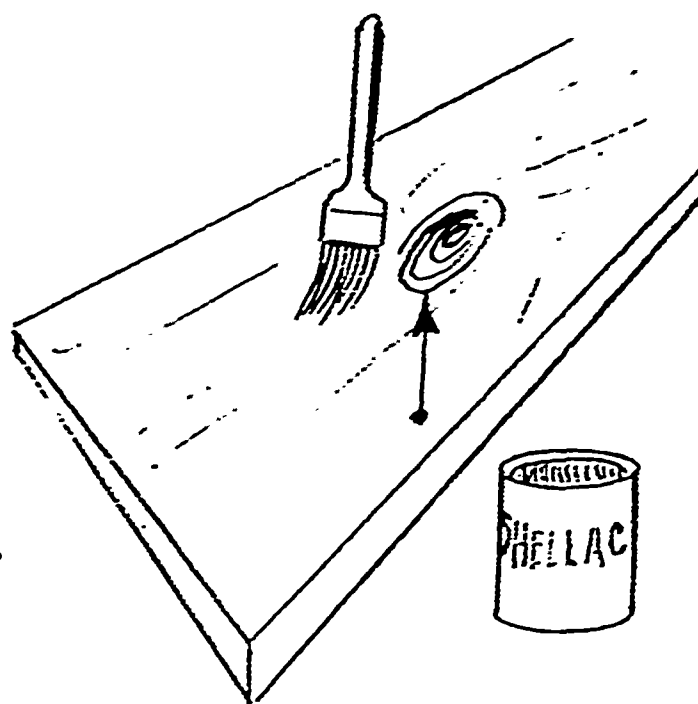

FIG 413
2. Dilute shellac or varnish 3-1 for first soaking coat - brush on evenly (extra care over knots). See figure 413.